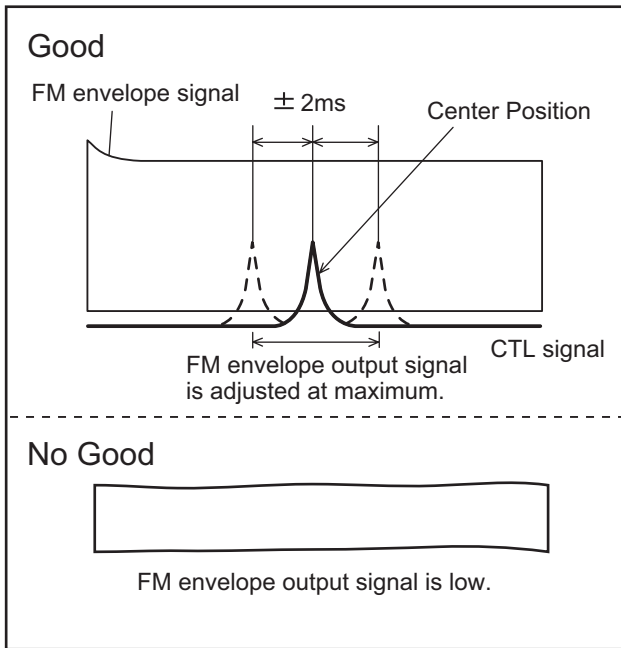
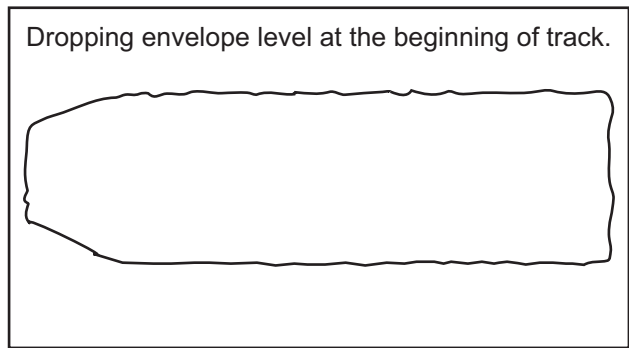
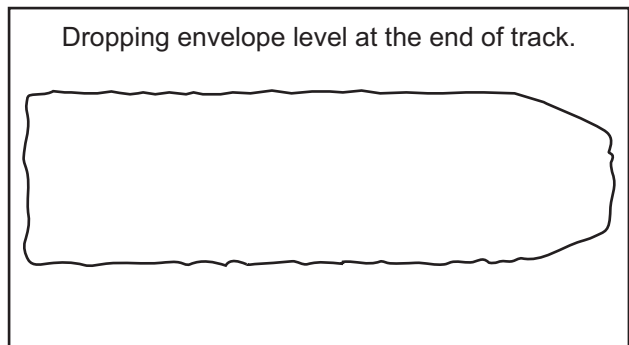

Fig.7
Fig.8
Fig.9
- (3) If the envelope is as shown in Fig. 7, adjust the height of Guide Roller [2] (Refer to Fig. 3) so that the waveform looks like the one shown in Fig. 9.
- (4) If the envelope is as shown in Fig. 8, adjust the height of Guide Roller [3] (Refer to Fig. 3) so that the waveform looks like the one shown in Fig. 9.
- (5) When Guide Rollers [2] and [3] (Refer to Fig. 3) are aligned properly, there is no envelope drop either at the beginning or end of track as shown in Fig. 9.